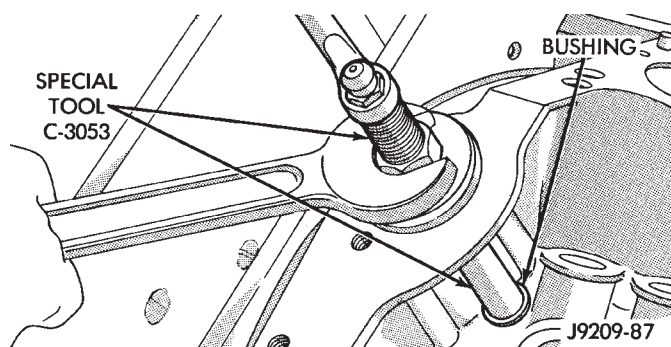

Fig. 35 Burnishing Distributor Driveshaft Bushing
- (3) As the burnisher is pulled through the bushing, the bushing is expanded tight in the block and burnished to correct size (Fig. 35). **DO NOT ream this bushing.**